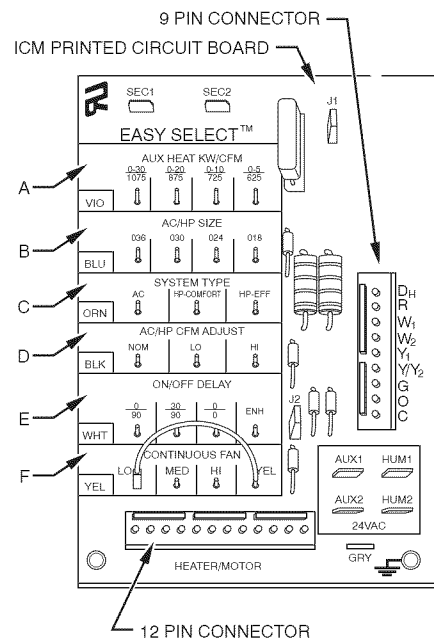

Fig. 15 - Detail of SPP Printed-Circuit Board
Installer must select the auxiliary heat airflow approved for application with kW size heater installed. If no heater is installed, this step can be skipped. Each select pin is marked with a range of heaters for which airflow (also marked), is approved. For increased comfort, select the narrowest kW range matching the heater size, for example, 0-10 for 10-kW heater. This airflow must be greater than the minimum for CFM for electric heater application with the size system installed for safe and continuous operation. (See Tables 2 & 4-6 for airflow delivery and minimum CFM.) Note that airflow marked is the airflow which will be supplied in emergency heat mode and heating mode on air conditioners when electric heat is the primary heating source. In heat pump heating mode when electric heaters are energized, the ECM will run the higher of heat pump heating airflow and electric heater airflow to ensure safe heater operation. The factory selection is the largest heater range approved (See Fig. 15, A as indicated).
The factory setting for air conditioner or heat pump size is the size which matches the model of packaged unit installed. Installer should verify air conditioner size to ensure that airflow delivered falls within proper range for the size unit installed. This applies to all operational modes with the exception of electric heat modes (See Fig. 15, B as indicated).
The AC/HP CFM Adjust select is factory set to the High-Hi (NOM for 060) tap. The CFM Adjust selections NOM/LO will regulate airflow supplied for all operational modes, except non-heat pump heating modes. HI provides 15 percent airflow over nominal unit size selected and LO provides 10 percent airflow below nominal unit size selected. CFM Adjust selection options are provided to adjust airflow supplied to meet individual installation needs for such things as noise, comfort, and humidity removal (See Fig. 15, D as indicated).
Four motor operation delay profiles are provided to customize and enhance system operation (See Fig. 15, E as indicated).
- (3.) HI speed-Move connector to HI, 100 percent cooling mode airflow (See Fig. 15, F as indicated).
The following system configuration is recommended for maximum heating and cooling/dehumidifying comfort (See Fig. 15).
- d. HUMIDIFIER/HUMIDISTAT CONNECTIONS Easy Select Board terminals HUM1 and HUM2 are provided for direct connection to the low-voltage control of a humidifier through a standard humidistat (See Fig. 15). These terminals are energized with 24-v. when G thermostat signal is present. (See Fig. 15, 16 & 17). Alternately, the 24-v. signal may be sourced from the W and C circuit board connections. When using a Thermidistat Control, Zone Comfort Plus or Comfort Zone II, the 24-v. signal may be sourced directly from the Thermidistat HUM terminal.
Latent capacities for these units are better than average systems. If increased latent capacity is an application requirement, the circuit board provides connection terminals for use of a standard humidistat. The unit will detect the humidistat contacts opening on increasing humidity and reduce its airflow to approximately 80 percent of nominal cooling mode airflow. This reduction will increase the system latent capacity until the humidity falls to a level which causes the humidistat to close its contacts. When the contacts close, the airflow will return to 100 percent of selected cooling airflow. To activate this mode, remove jumper J1 and wire in a standard humidistat (See Fig. 15).